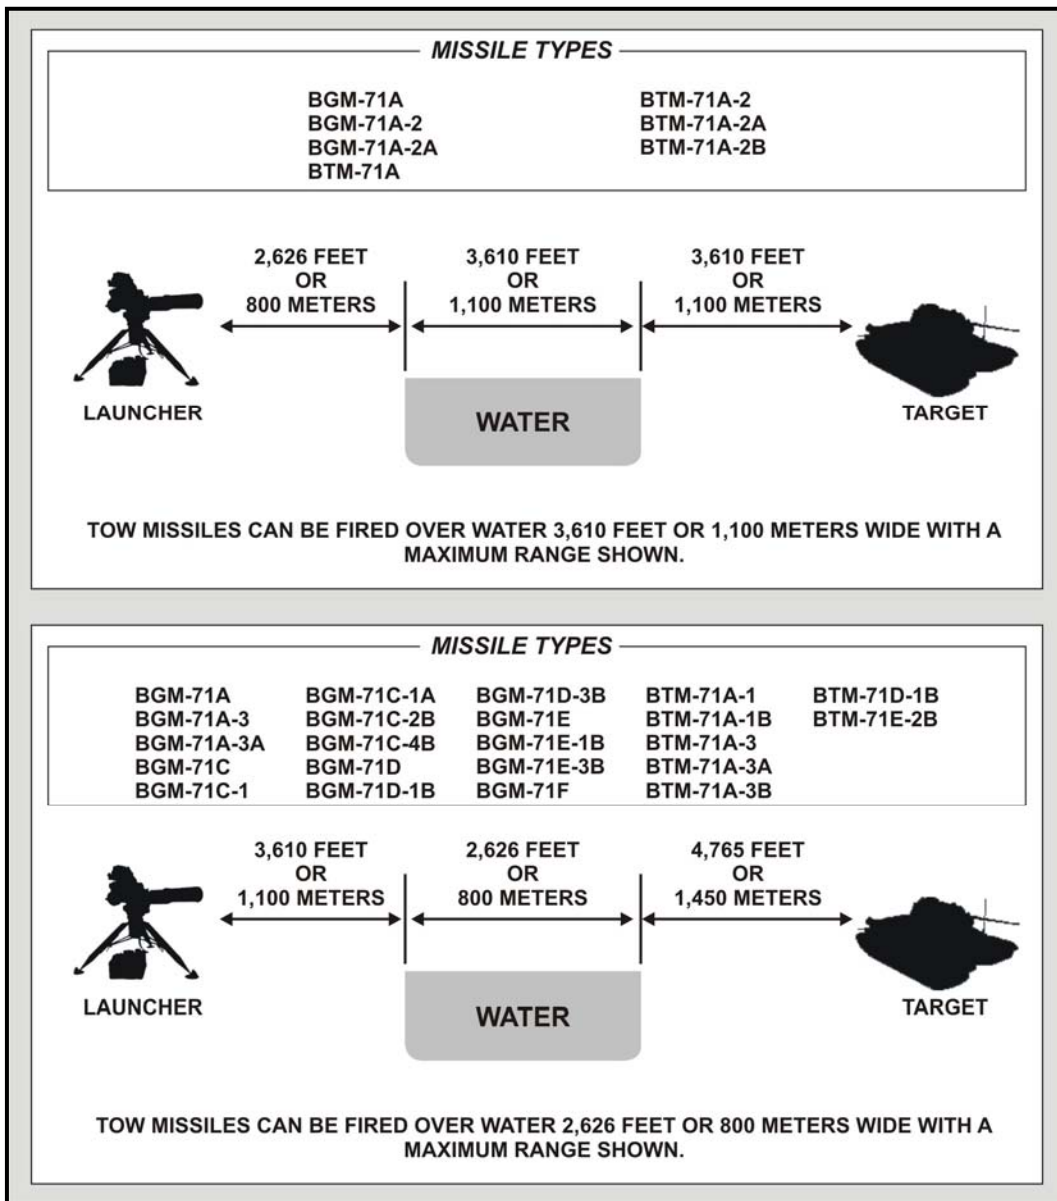

Figure 4-1. Maximum TOW range over water.
a. TOW missiles may be fired over water to a maximum range as shown in Figure 4-1.